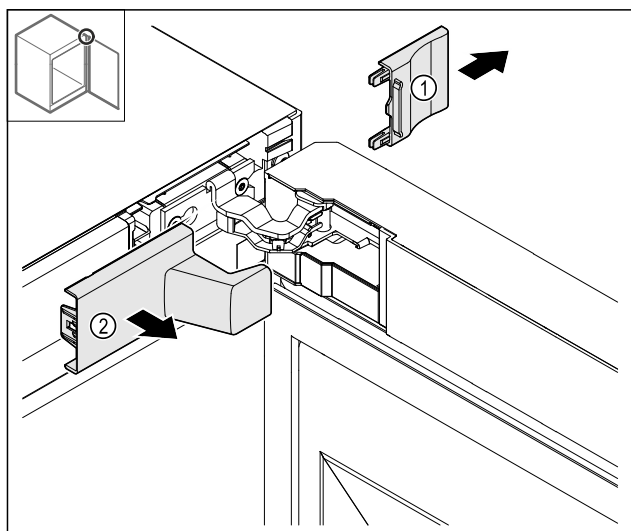

Fig. 15
- Lift off the cover Fig. 15 (1) and then remove Fig. 15 (2).